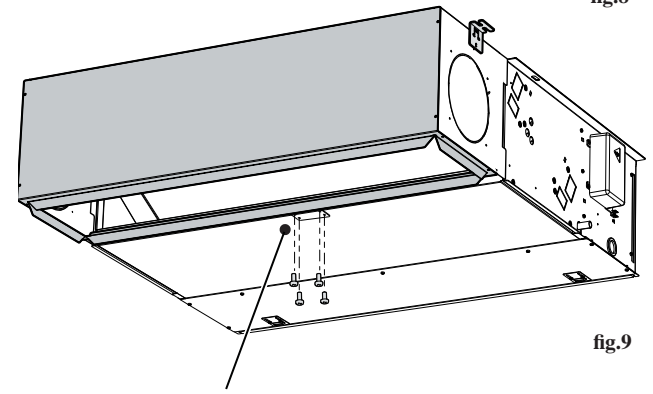

fig.9
- In the RPM670V size, the external support bracket must be installed with the 4 screws provided (fig.9).